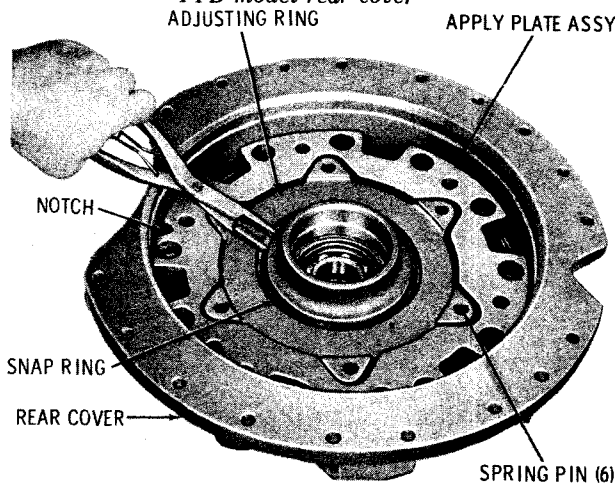

Fig. 6-19. Removing snapping from brake apply plate assembly
(3) Position the rear cover so that the mounting flange is upward, and remove the snapping that retains the brake apply plate assembly (fig. 6-19). Remove the brake apply plate assembly. Do not disassemble the apply plate assembly unless it does not meet the minimum pressforce of 400 pounds during the readjustment procedure described in (4), below.
(4) If removal of six spring pins 22 (B, foldout 7) was not necessary, install brake apply plate assembly 20 into rear cover 38. Align the small notch in the plate with the cast lug located at the bottom of the cover bore (fig. 6-19). Install the snapping to retain the brake apply plate in the rear cover.
(5) If removal of six spring pins 22 (B, foldout 7) was necessary, install six new pins into apply plate 23. Press the pins until they bottom in their bores. Press adjusting ring 21 onto pins 22 until the front surface of ring 21 is within 0.010 inch (0.25 mm) above, to flush with, the front surface of apply plate 23.